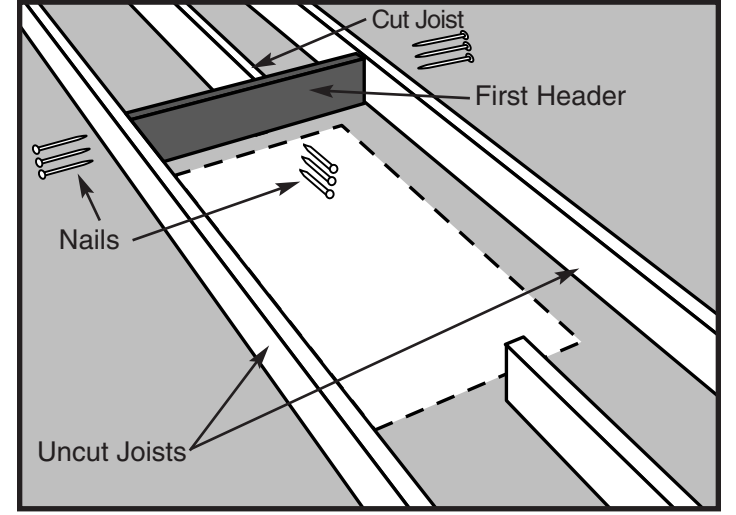

Figure 15
- STEP 3.** Place one of these headers against the end of the cut joist(s) (See Figure 15). It must fit snugly between the uncut joists. Hammer it into position if necessary; if it is more than 1/16 inch too long, trim it. If it is more than 1/16 inch too short, cut another piece.
- STEP 4.** Square the header to the uncut joist and nail the header to the end of the cut joist(s) with 3 nails (See Figure 15).
- STEP 5.** Check header for squareness then drive 3 nails through each joist into each end of the header (See Figure 15).